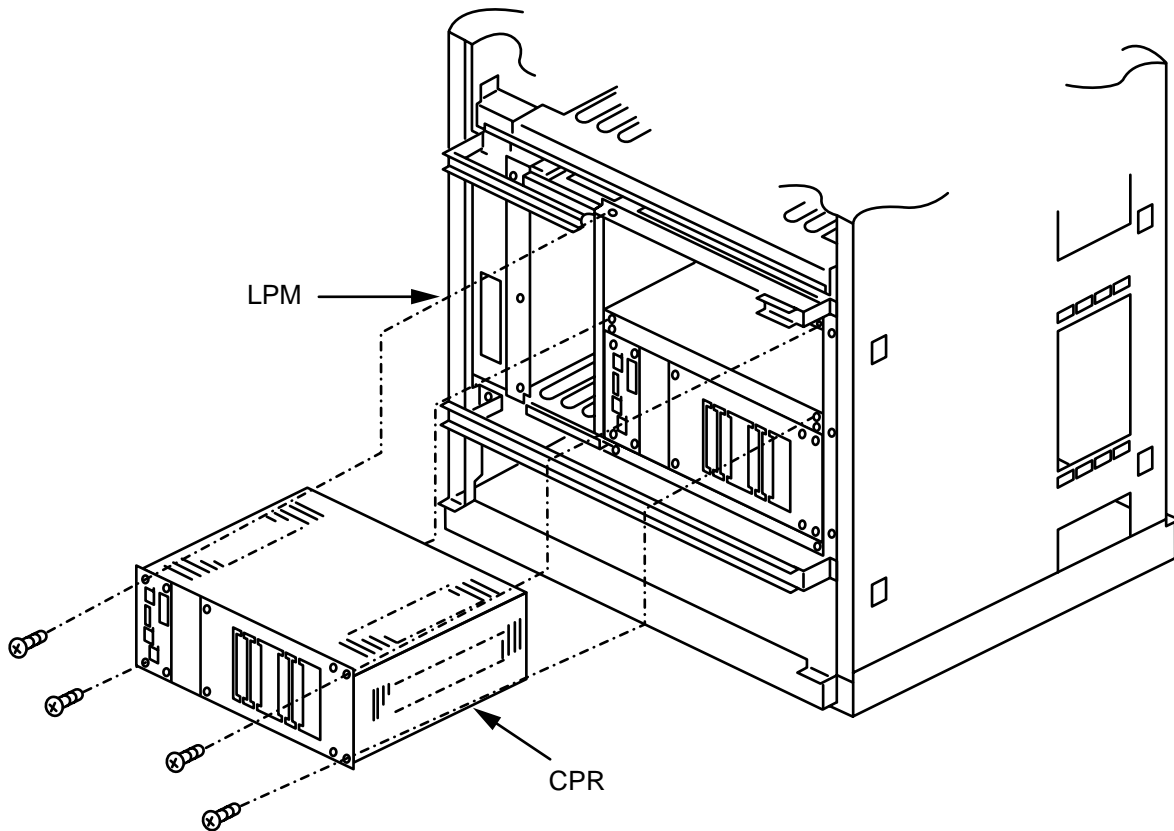

Figure 009-7 Accommodation of New CPR into LPM
4. After turning “ON” the MBR key on the DSP of the CPR, insert the CPR into the LPM. Then, fasten the four screws. (Refer to Figure 009-7.)